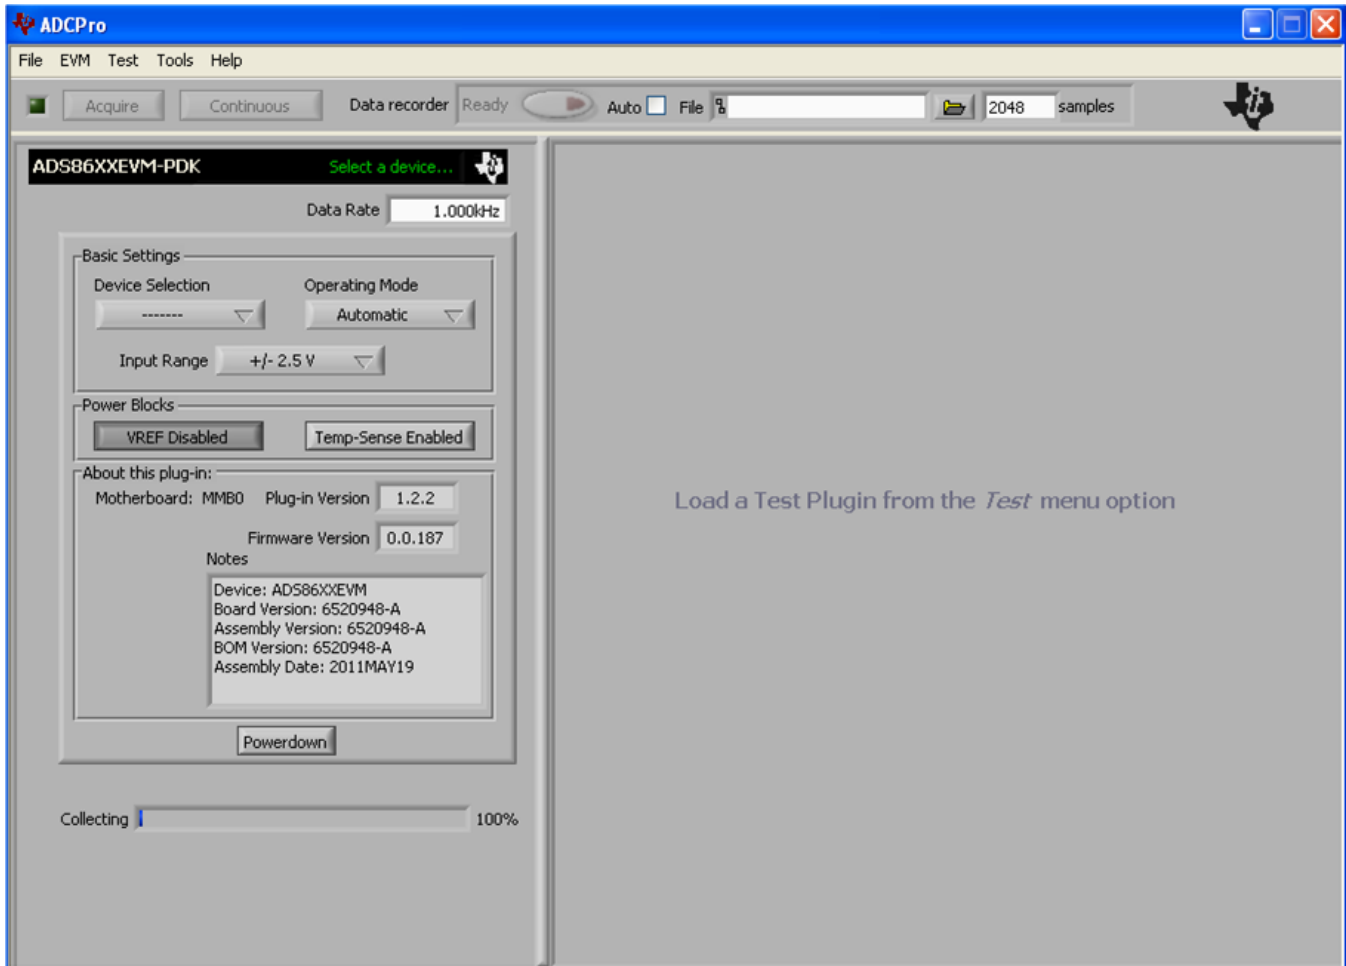

Figure 8. ADS86xxEVM-PDK Plug-in
2. Select *ADS86xxEVM* from the EVM drop-down menu. The ADS86xxEVM-PDK plug-in appears in the left pane. The setup is shown in Figure 8.